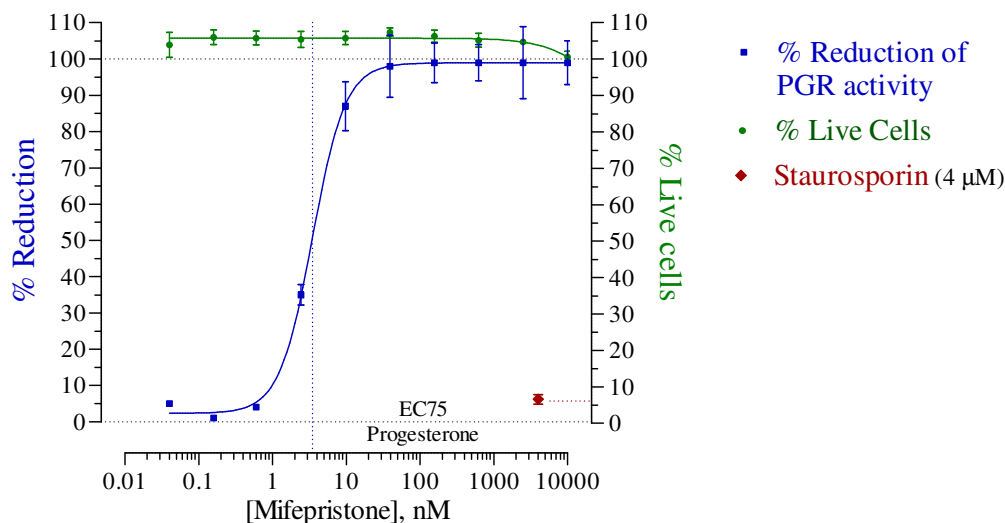

Figure 3. Validation of PGR Assay antagonist dose-response.
- *Optional:* antagonist reference compound (e.g., Fig. 3)